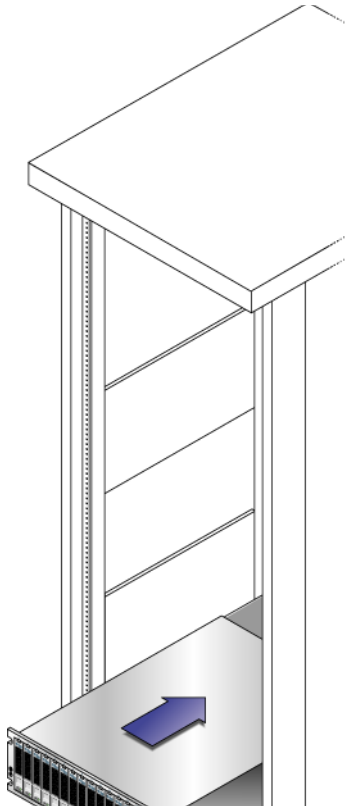

FIGURE 2-8 Sliding the Unit Into the Cabinet
2. Carefully slide the unit into the cabinet until the front flanges of the unit touch the vertical face of the cabinet (FIGURE 2-8).